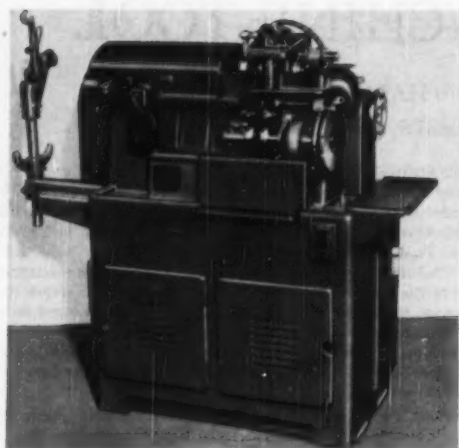

FIG. 2 FABRICATED STEEL BASE ON AUTOMATIC PINION-TURNING MACHINE
**Block Form.** An expressive and useful design theme for machine tools is the "block form." It is an easy form to manipulate and is readily produced by fabrication and by casting. Fig. 2 shows an application of square and rectilinear forms. These forms have a stable appearance and combine well with cylindrical members which are of course common in machine tools.